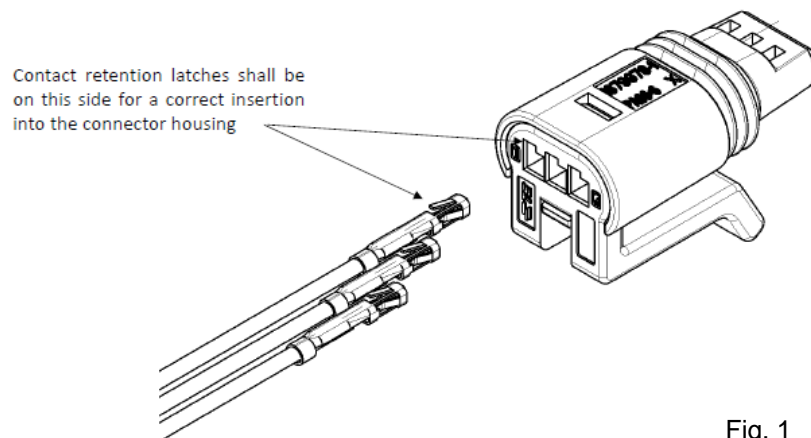

Fig. 1
3. Align the crimped contacts P/N 166309-2 or 166310-2 as shown in Figure 1 below, before the insertion of the contacts into the connector